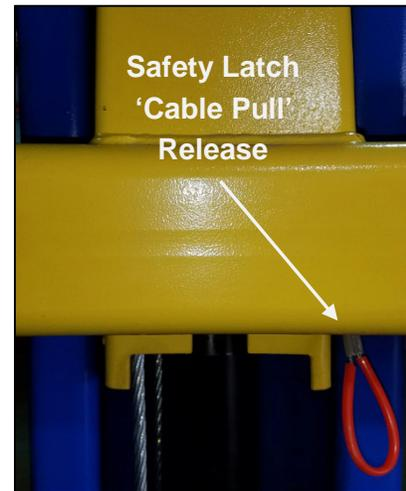

Fig. 18
2. To lower the lift, both carriage's safety latch releases must be manually pulled down to be released to lower lift **(Fig.18)**. The latches will automatically reset once the lift ascends approximately 17" from base.